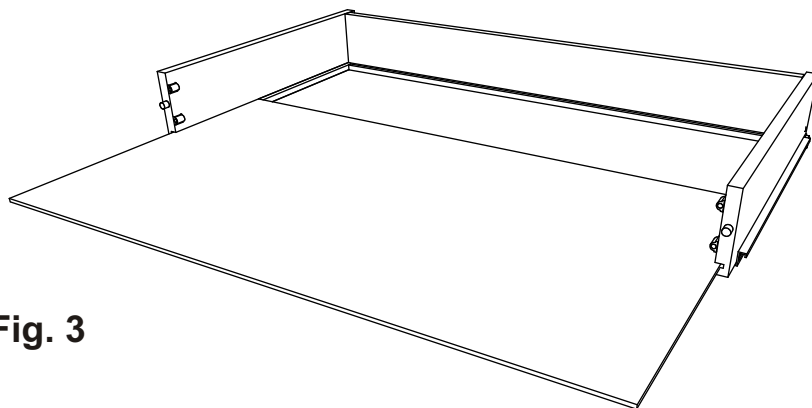

Fig. 3
Tighten the four wood screws (K) on drawer back (clock wise) with a Phillips head screw driver **(Fig. 3)**
Slide the drawer bottom (D) along the slotted edges of the left and right drawer sides to the slotted edge of the drawer back. **(Fig. 3)**